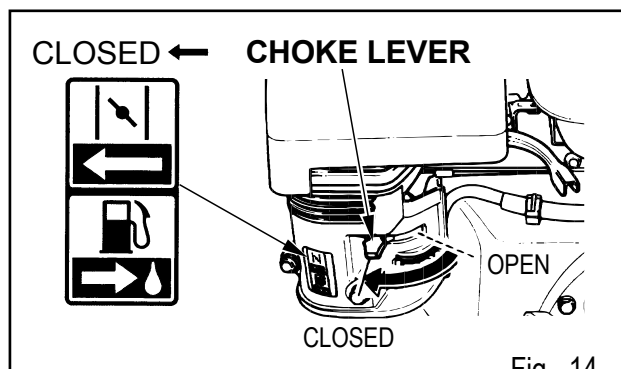

Fig. 14
2. To start a cold engine, move the choke lever to the CLOSED position. (Fig.14)